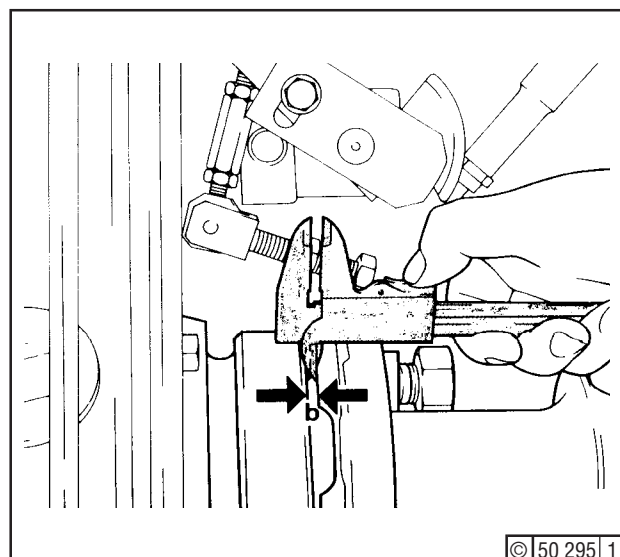

Fig. 8
- Determine maximum dimensions "b". Move shaft into right end position - free end - Fig. 8.